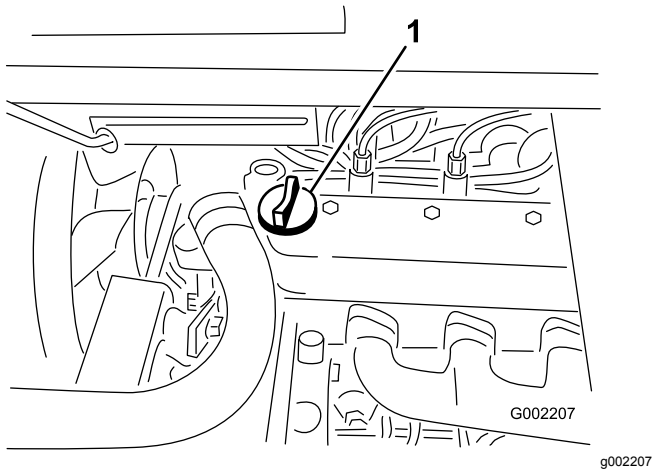

Figure 19
3. If the oil level is low, remove the filler cap from the valve cover (Figure 19) and pour oil into the opening until the oil level is up to the Full mark on the dipstick; refer to Servicing the Engine Oil (page 37) for the proper oil type and viscosity.